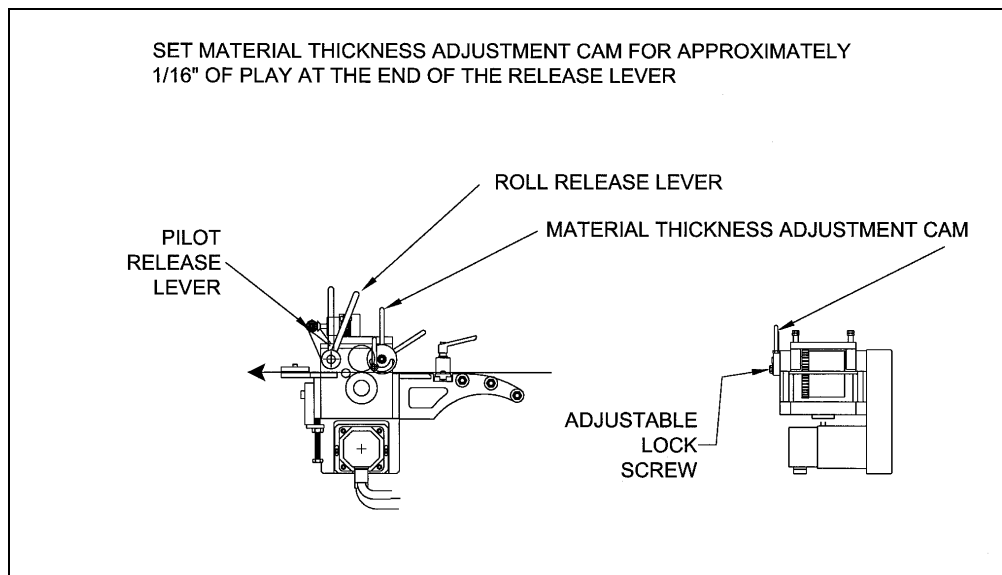

FIGURE 3
4. Adjust the material thickness using the Material Thickness Adjustment Cam and Adjustable Lock Screw. Refer to the **FIGURE 3** for proper setting.
3. Adjust the material thickness using the Material Thickness Adjustment Cam and Adjustable Lock Screw. Refer to the **FIGURE 3** for proper setting.